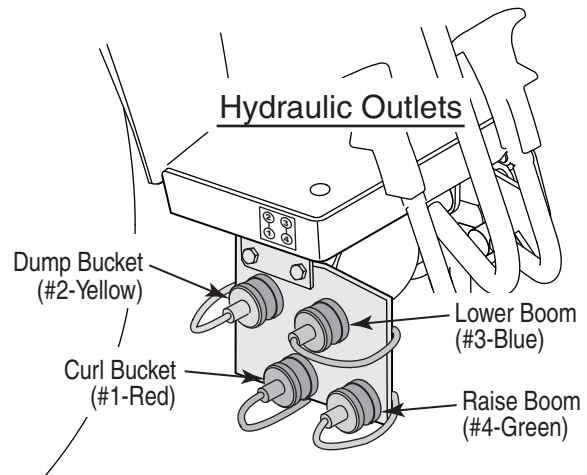

Figure 8
- Slowly drive the tractor forward while guiding the bottoms of masts into the RH and LH mounts. Refer to Figure 8. Carefully lower the overhead lift to set the notches at the bottom of the masts partially onto the tubular bars of the mounts.
- Locate the color coded protective plugs in the female hydraulic couplers on the lower right side of the tractor, just in front of the right/rear tire. Refer to Figure 8.
- Using the color coded plugs and matching color coded washers on the loader hoses to guide you, remove the plugs and connect each loader hose to the appropriate hydraulic coupler. Refer to Figure 8.